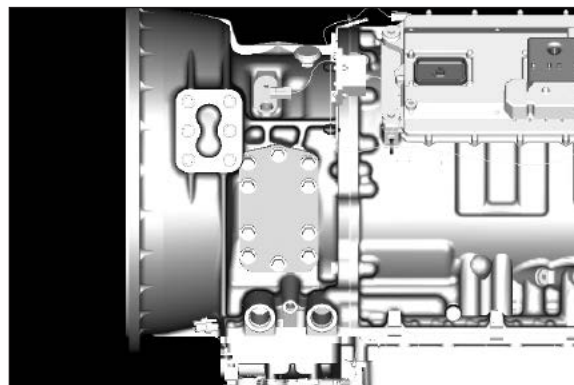

Fig. 28
1. Remove the PTO aperture plate with a 16mm socket (**Fig. 28**).